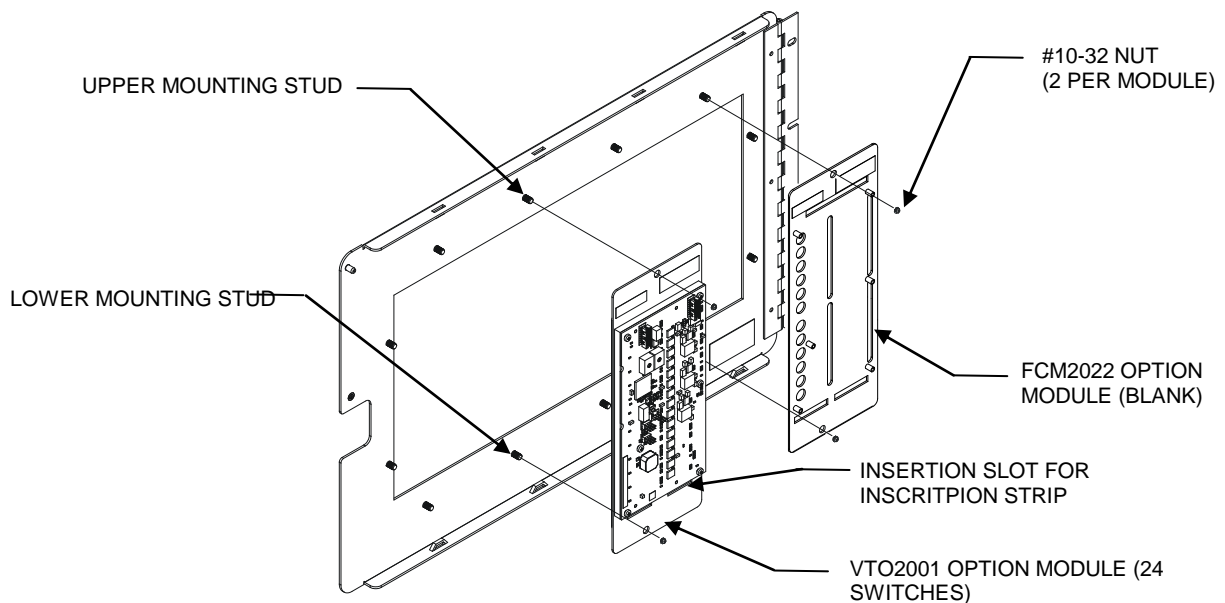

Figure 5
2. Please see Figure 5. Mount each option module in its assigned position by sliding its top and bottom mounting holes over the upper and lower mounting studs on the inside surface of the inner door.
Insert paper inscription strips into the left and right slots provided on the bottom-rear of the VTO2001-U2/U3 module to identify the programmable functions associated with each control pushbutton. The insertion slots on the rear of the VTO2001-U2/U3 module are illustrated in Figure 5.